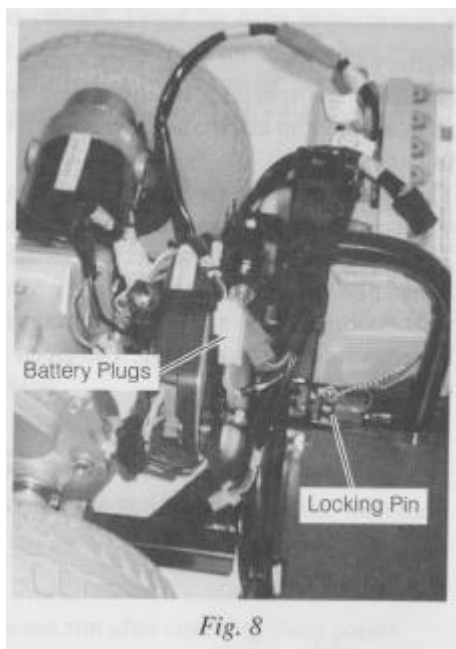

Fig. 8
5. Disconnect the battery plugs and the orange multi-plug by depressing the small lip on the plugs (Fig. 8).
7. Remove the locking pin and separate the rear drive unit (Fig. 8).
FREE WHEEL OPERATION (Fig. 8)